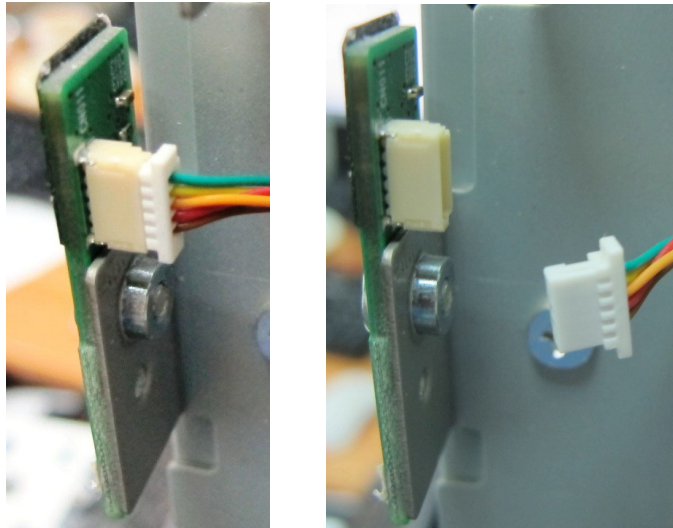

Figure 8-56 Disconnecting Monitor Light Sensor Cables
2.) Disconnect the monitor light sensors' cables as shown in Figure 8-56.